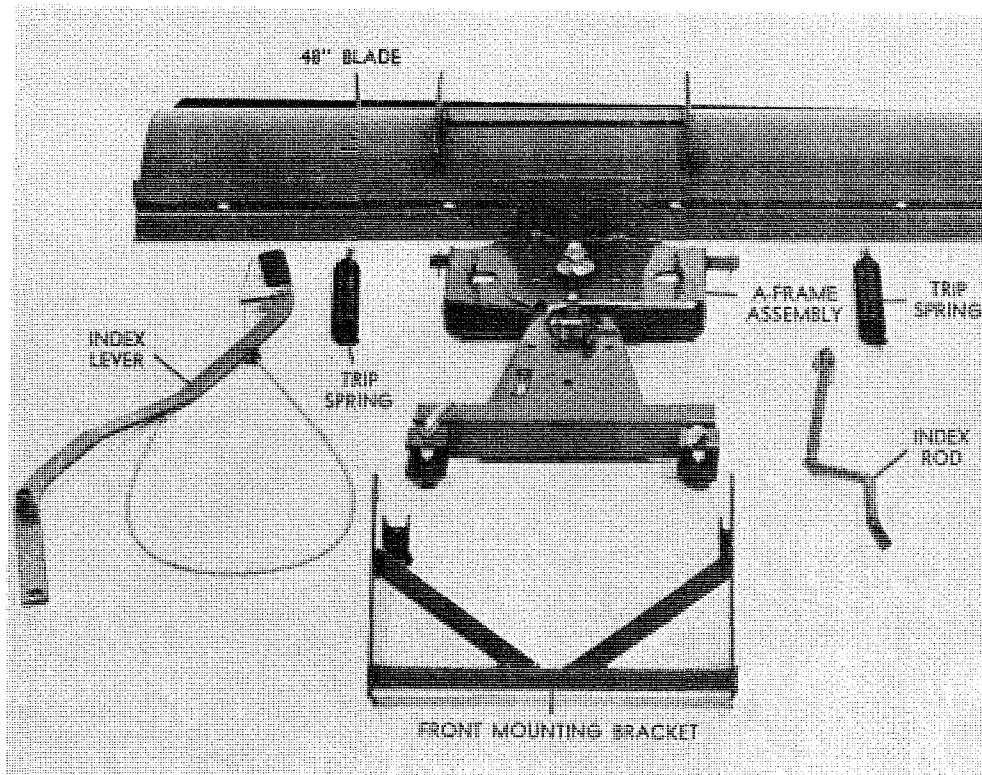

FIG. 1. 48" Snow/Dozer Blade 6-0700
The 6-0700 is shipped in two (2) cartons. The small carton contains the front mounting bracket (Fig. 1). The larger carton contains all other parts needed to install the Dozer Blade on either a B-145 or a C-185 Wheel Horse Elec-Trak tractor.
Unpack all the parts from the cartons and identify as shown in Fig. 1.